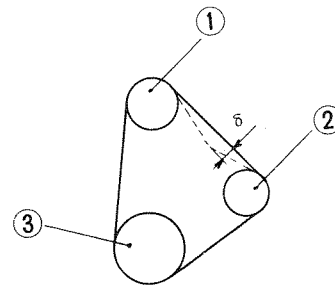

Fig. 40 Tension of fan belt
- ⑩ To set the tension of the cooling fan belt, as illustrated in Fig. 40, depress the central part between the cooling fan pulley and the dynamo pulley with the fingers. The amount of slackness = 0.276 to 0.354 in (7 to 9 mm.) Move the dynamo so as to obtain the correct slackness.